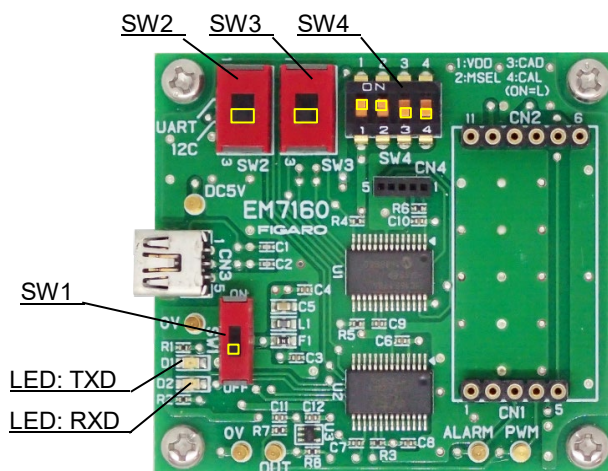

Figure 2 - I2C Communication Setting
Caution!! Before changing the serial communication setting, be sure to turn off the power switch (SW1) by setting it to the lower position as shown in Fig. 2.
- SW2, SW3: Set to I2C position (**lower position** as seen in Figure 2).
- SW4-1, SW4-2: Set to ON position (**upper position** as seen in Figure 2).
- SW4-3, SW4-4: Set to OFF position (**lower position** as seen in Figure 2).